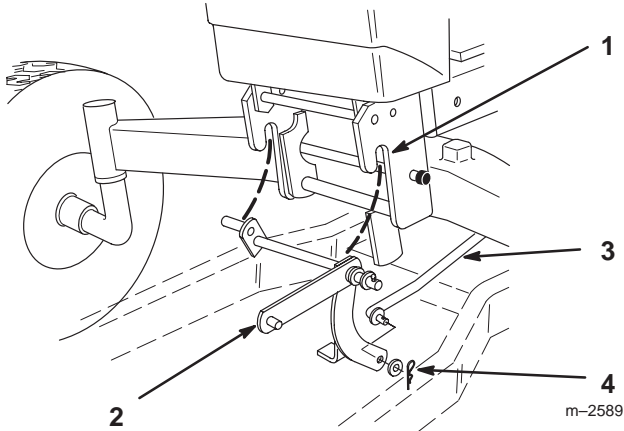

Figure 10
6. Open front hitch on tractor and install lift link (Fig. 10).
7. Place lift rod into lower arm of lift link and secure with washer and hairpin cotter (Fig. 10).